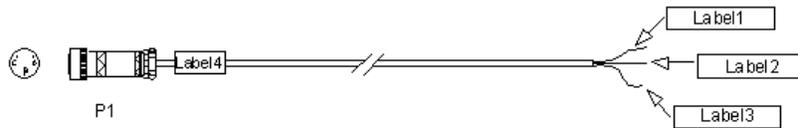

Fig. 1: Vault Tamper Switch Cable
- i) Obtain all parts in Parts List and assemble the cable as shown in Fig. 1 and Table 1.
1. Assemble P4 using the mechanical drawing and schematic, Fig.1
5. Assemble P4 as shown in fig.1 and the cable drawing.